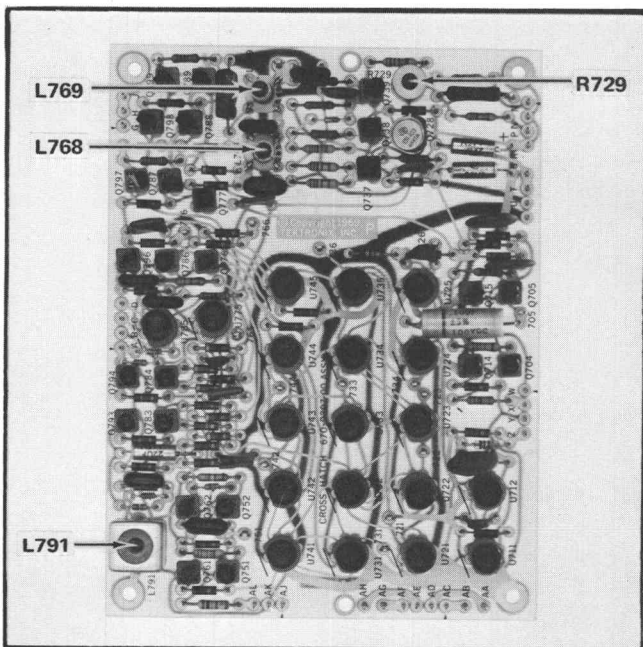

Fig. 5-41. Crosshatch board adjustment locations.
j. ADJUST—R729; see Fig. 5-41, until the top of the bottom display just aligns with the sync tip of the upper display.
i. ADJUST—L791; see Fig. 5-41, until the time between the 17th pulse and the trailing edge of setup (see part g) matches the time between the leading edge of setup and the peak of the first vertical line (see part e).
f. ADJUST—L768 and L769; see Fig. 5-41, for the best square corner on the leading edge of the pulse.